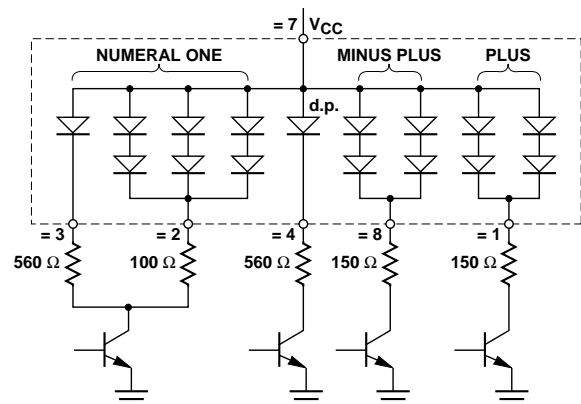

Figure 7.
- L: Line switching transistor in Figure 7 cutoff.
- H: Line switching transistor in Figure 7 saturated.
LED current must be externally limited. Refer to Figure 7 for recommended resistor values.